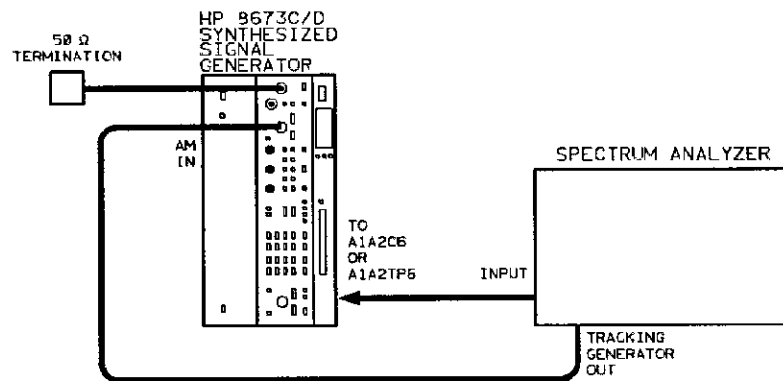

Figure 5-43. AM Bandwidth Adjustment Test Setup
1. Connect the equipment as shown in figure 5-43.